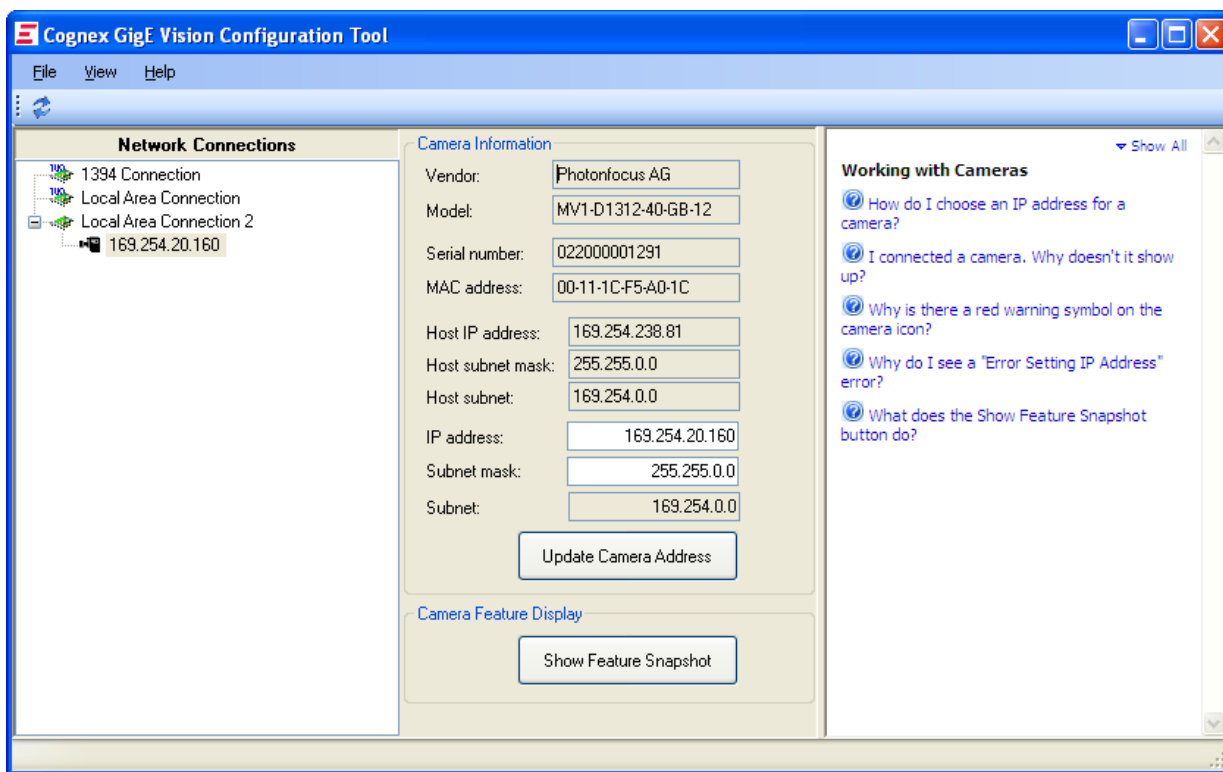

Figure 3.6: GigE Vision Configuration
1. The first step is to assign a valid IP address to the camera. Open the GigE Vision Configuration Tool (Start -> All Programs -> Cognex -> VisionPro -> Utilities -> GigE Vision Configuration Tool) and select the camera on the left panel (see Fig. 3.6). This tool can be used to modify the IP address and the subnet mask of the camera. Click on Update Camera Address if you modified the settings.